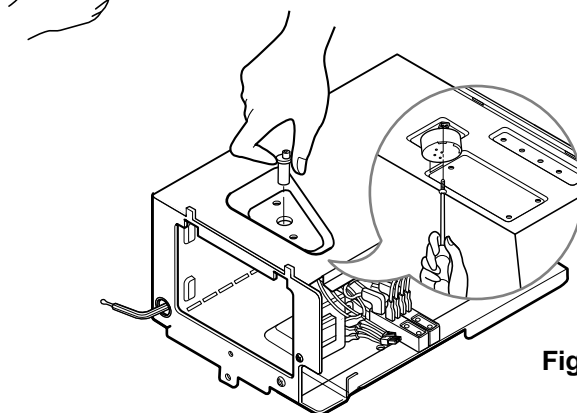

Figure 27
5. Remove the 2 screws which fasten the synchronous motor. (See Fig. 27)